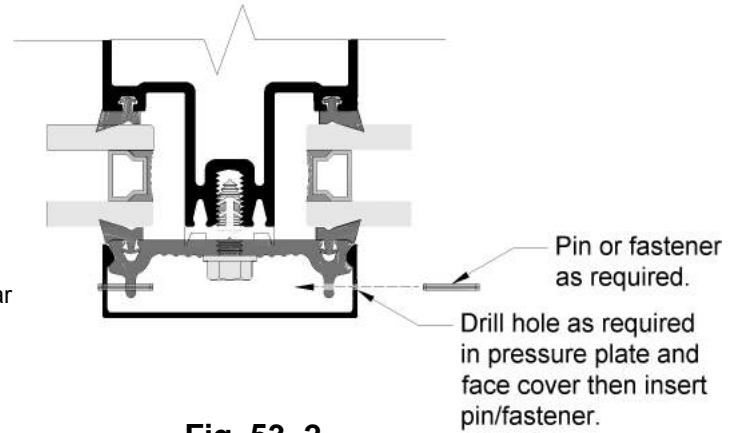

Fig. 53.2
L. Pinning requirements(See Fig 53.2):